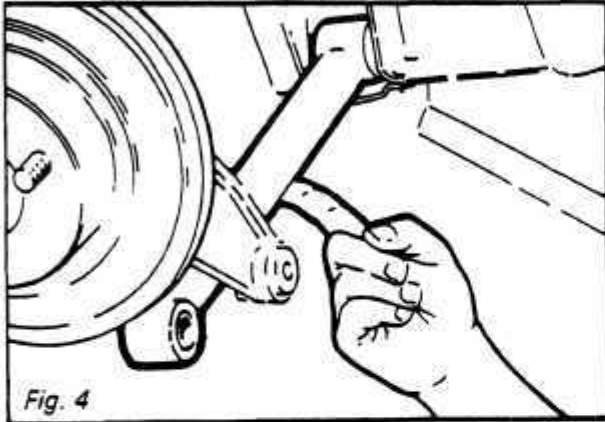

Fig. 4
4. Remove the lower link to chassis frame, pivot bolt and nut and remove lower link. *Fig. 4*